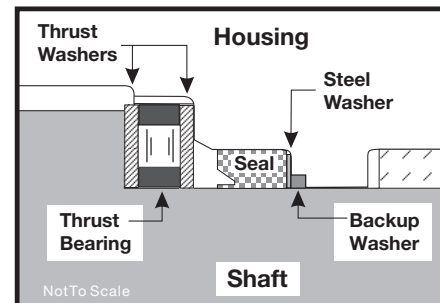

Figure 60
6. A housing (18) that did not require replacement of the bearing package will require that the two “captured” thrust washers (14) and thrust bearing (15) be unseated and vertical to the counterbore and the **new** backup ring (17), **new** backup washer (25), and **new** seal (16) be worked around the thrust bearing package and placed into their respective counterbores. The seal lip must face out of the seal counterbore and toward the inside of Torqmotor™ (see figure 60). Be sure the thrust bearing package is resealed correctly after assembly of the seal and backup washer. SEE FIGURES 35 & 36.